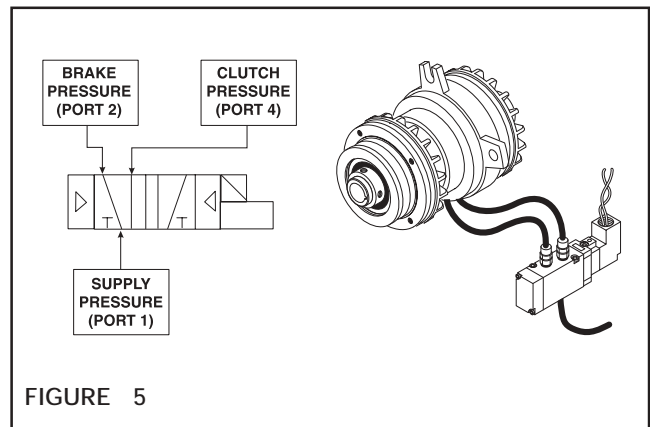

FIGURE 5
1. If the brake is to be set when the solenoid is de-energized, connect the port marked 2 to the brake and the port marked 4 to the clutch (See Figure 5).
2. Connect the air supply line to the inlet port marked 1 (See Figure 5).